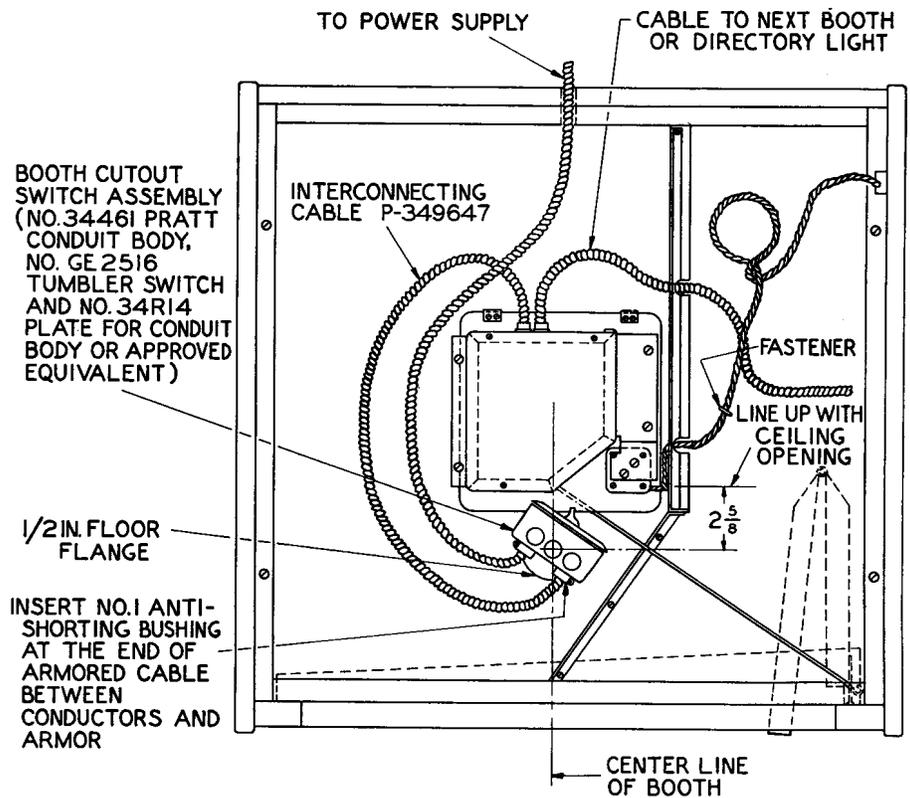

Fig. 7 — Typical Cutout Switch Installation with 4-type Light Fixture
2.14 To install a booth cutout switch (Fig. 7):